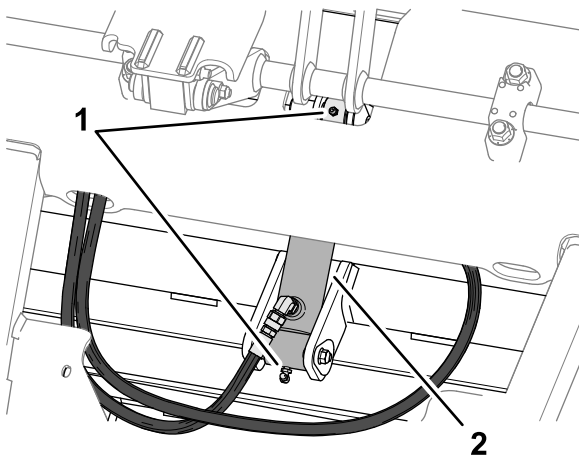

Figure 73
1. Remove the fill cap from the valve cover (Figure 73) and slowly pour approximately 80% of the specified amount of oil: 2.0 L (2.1 US qt) into the filler neck of the valve cover.